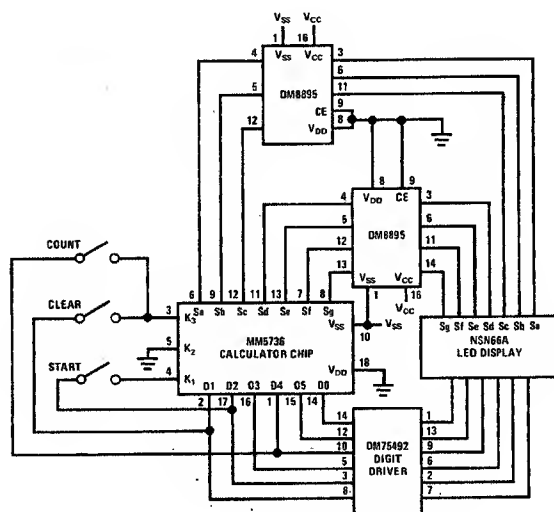

FIGURE 3. Counter with Segment Drivers
*Figure 3* indicates how to build this same counter using segment drivers. The DM8895 segment driver can be mask programmed to source several values of current. Since the values of current that are readily available will change from time to time, National should be consulted about the DM8895 before a design using it is undertaken. The general range of currents available is from 5.0 mA up to about 17 mA per segment. This means that fairly large displays can be used. Noteworthy is the fact that the current that drives the display in this configuration is not supplied by the calculator chip. Instead, this current comes from the  $V_{CC}$  supply terminal of the DM8895. The DM8895 will continue to